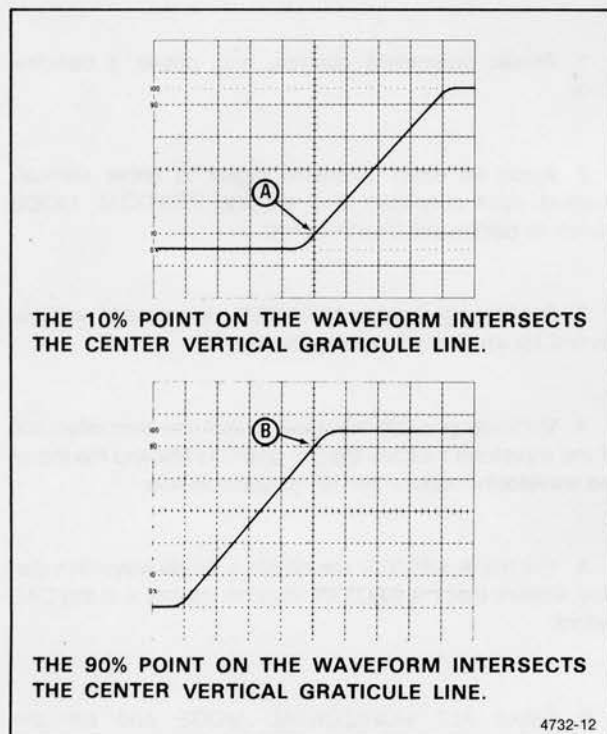

Figure 4-14. Rise time, differential time method.
7. Select the B HORIZONTAL MODE. Adjust the B DELAY TIME POSITION control until the display intersects the 10% point at the center vertical graticule line (see Figure 4-14, Point A).
9. Adjust the B DELAY TIME POSITION control until the display intersects the 90% point at the center vertical graticule line (see Figure 4-14, Point B).